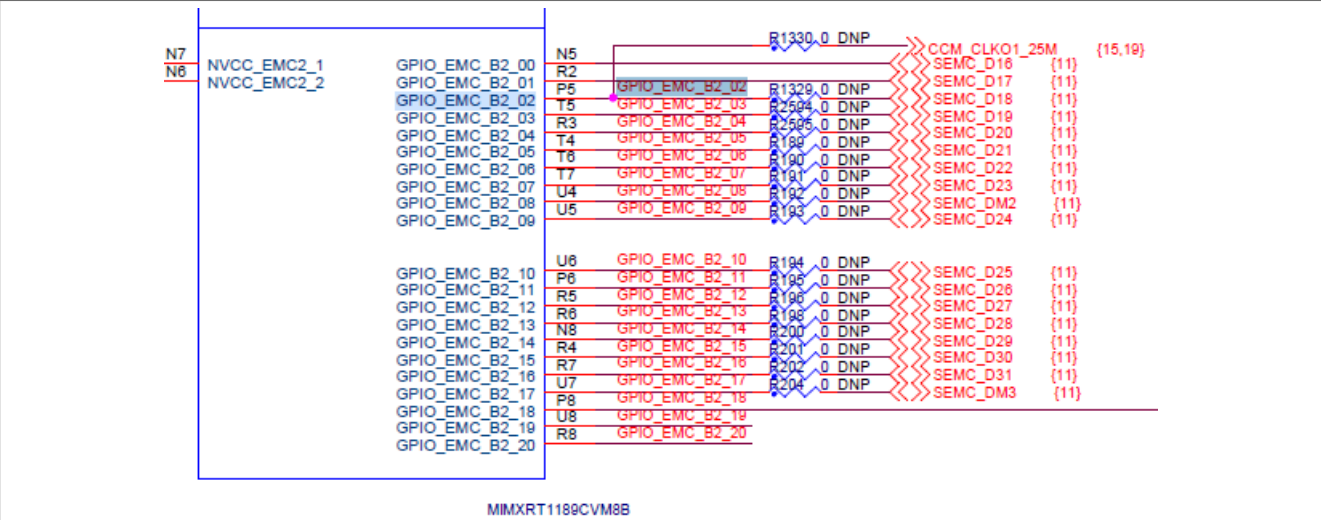

Figure 26. Step 4
5. Populate these resistors with 0 Ω resistor, such as R1329, R2594, R2595, R189-R202, R204. See Figure 26